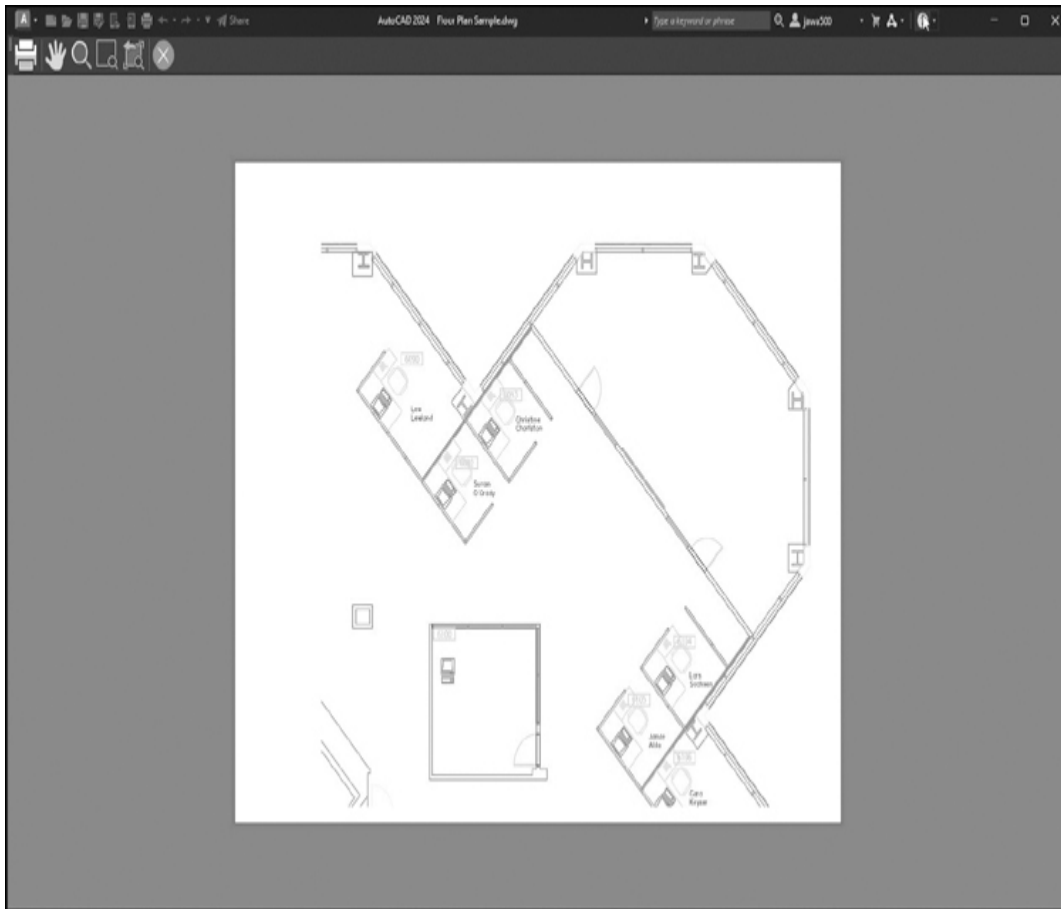

Figure 15-6
- 11** Choose **1/4" = 1'-0"** from the **Scale** list. Select the **Preview...** button. AutoCAD displays the plot preview as shown in Figure 15-6.